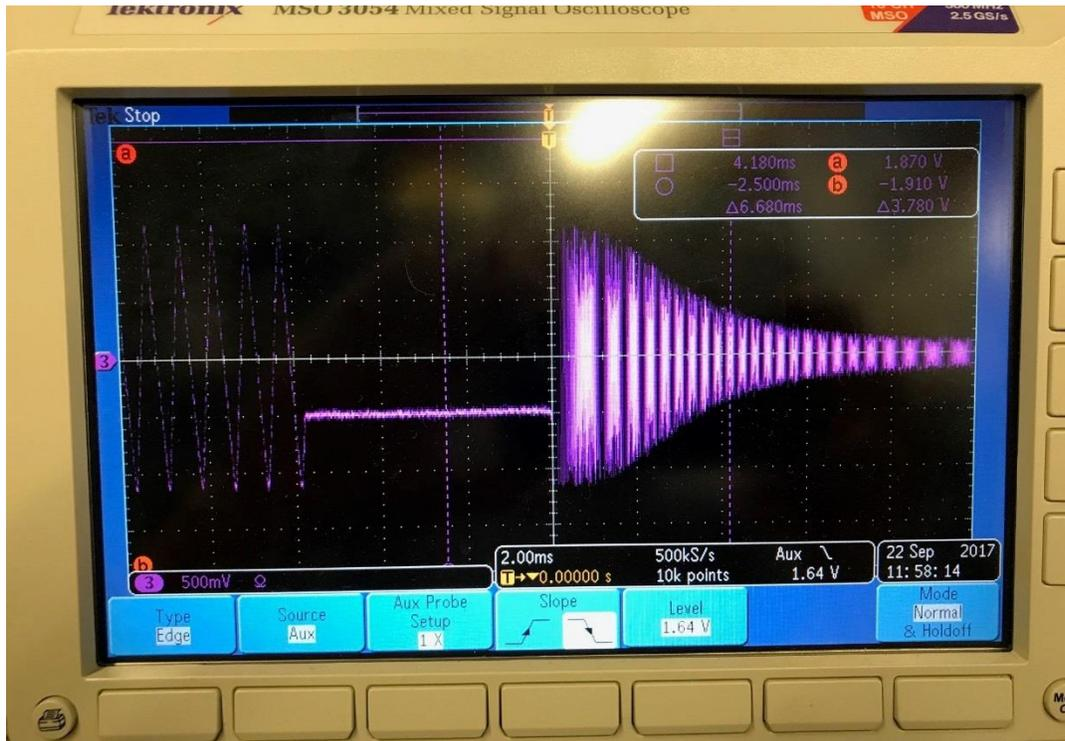

Figure XIV.1 Scope shot of Injection Frequency Measurement.
The following sections cover how to verify that the settable tuning parameters in the VME-DDS module are working as expected. We will be using the setup in Figure XIV.1 to measure the RF frequency at various points in the sweep.
3. Adjust the frequency of the signal generators sinewave output by first hundreds of Hertz then tens of Hertz, then single Hertz to get the flat portion of the phase detector trace to be level. See Figure XIV.1.